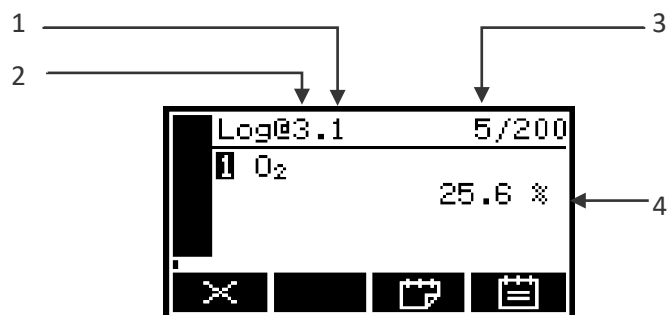

Figure 31: The Data logging screen
1. Press the  soft key. When you press the soft key, the current sample measurement at the time of the key press is 'captured' (stored in internal memory), and the Data logging screen will then be displayed (see Figure 31).
1. With the Measurement screen displayed, press the  soft key. The Data logging screen will then be displayed (see Figure 31).